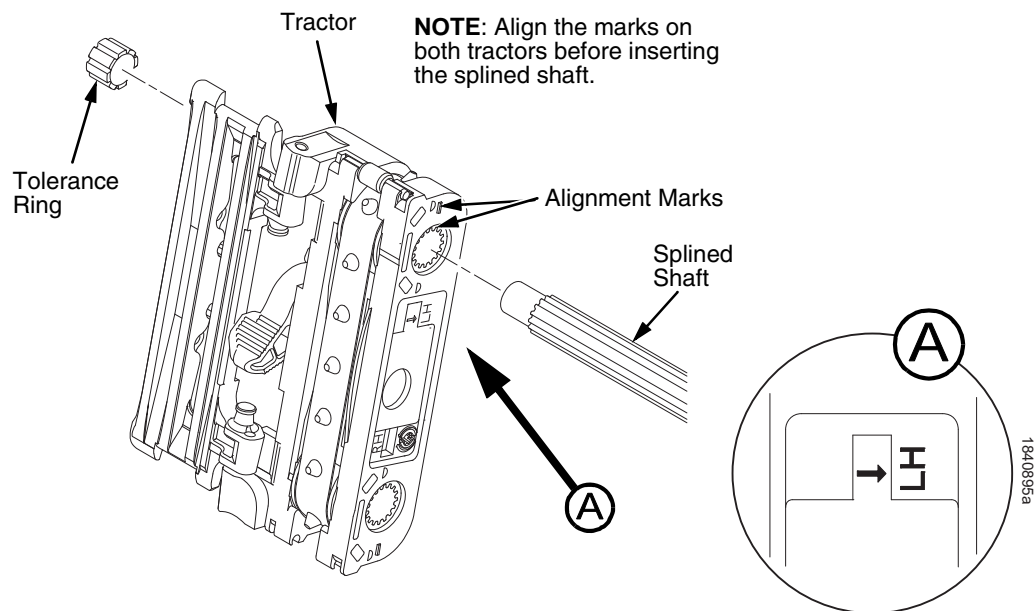

Figure 37. Splined Shaft and Tractor Installation
1. Open the doors on the left and right tractors. Position the splined shaft so the alignment marks are at the top on both tractors. (See Figure 37.)
2. Slide the splined shaft through the right side plate and tractors. Make sure the same spline passes the marked groove on each tractor. (See Figure 37.)
3. Install the tolerance ring on the left end of the splined shaft (page 356, item 5).
4. Insert the tolerance ring lead-in portion into the sealed ball bearing in the left tractor shaft plate (page 356, items 3, 5, and 6) while sliding the ball bearing into the right side plate. Push the splined shaft to the left until the flange on the ball bearing is in solid contact with the right side plate. The splined shaft will protrude about 1/16 inch (1.6mm) from the ball bearing.
5. Install the right tractor shaft plate and screw (page 356, items 7 and 8) by first sliding the upper “fingers” up and against the flange on the ball bearing, then sliding the rectangular cutout over the support shaft end, then snapping the U-shaped “spring” behind the tab on the right side plate.
8. Install the paper supports on the splined and support shafts. (See page 356, item 4.)